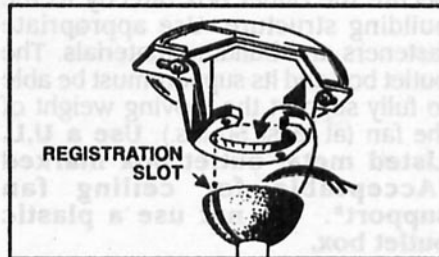

FIG. 9
**Step 6.** Now lift motor assembly into position and place downrod ball into hanger bracket. Rotate until the check groove has dropped into the registration slot and seats firmly. Rod should not rotate if this is done correctly. (Fig. 9)